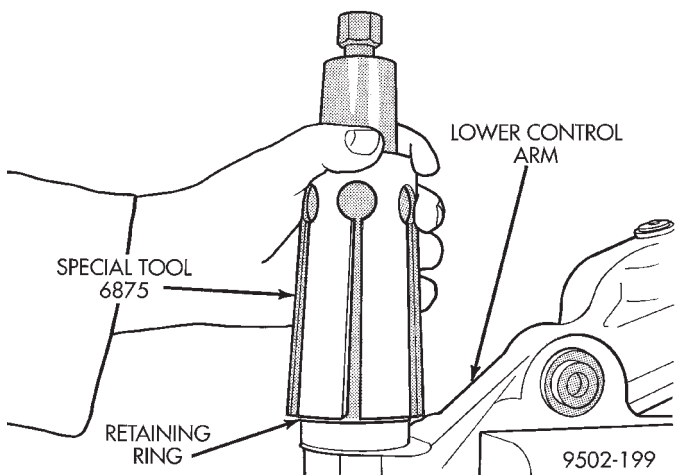

Fig. 84 Installing Seal Boot Retaining Ring
(6) Using the expandable collar of Installer, Special Tool, 6875 (Fig. 84) push the seal boot retaining ring down the cone of Installer, Special Tool, 6875.